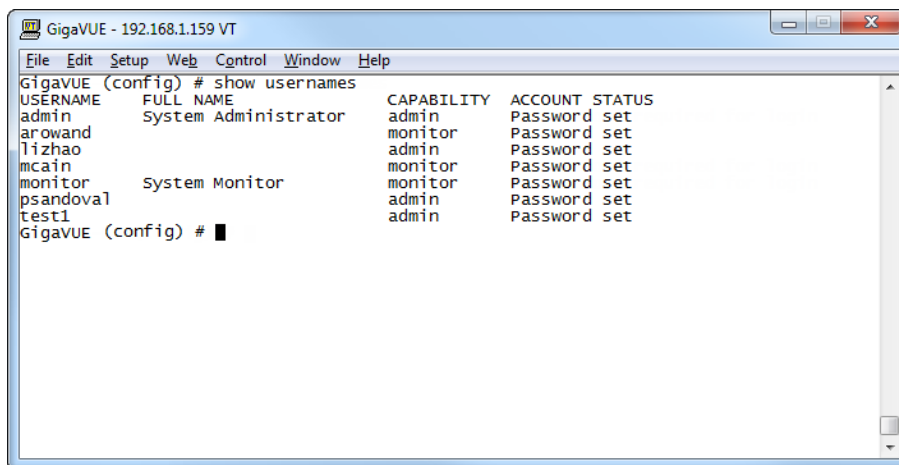

Figure 13 Reviewing the User List
- Once you have configured these basic user accounts, use the **show usernames** command to review your settings. Figure 13 Reviewing the User List shows some sample **show usernames** output after several users have been added.